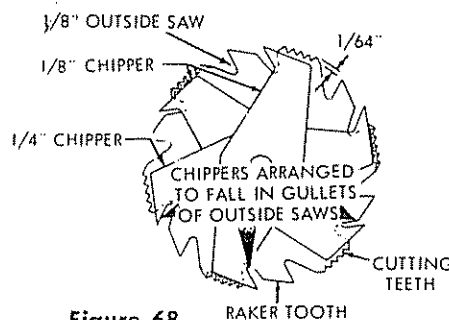

Figure 68
- The dado saw or head is a special set of blades for cutting grooves and dados with a bench saw. (See figures 68 and 69.) (Dado heads may be purchased at any Sears Retail Store or Catalog Order House.) The head consists of two solid, stiff outside blades, and a number of inside chipper blades. The outside blades are 1/8-inch thick; there is one 1/4-inch, two 1/8-inch, and one 1/16-inch chipper blades. With these blades, grooves of 1/8-inch, 1/4-inch can be cut and additional widths increased in steps of 1/6-inch up to a maximum of 13/16-inch and a maximum depth of 1-3/8-inches.